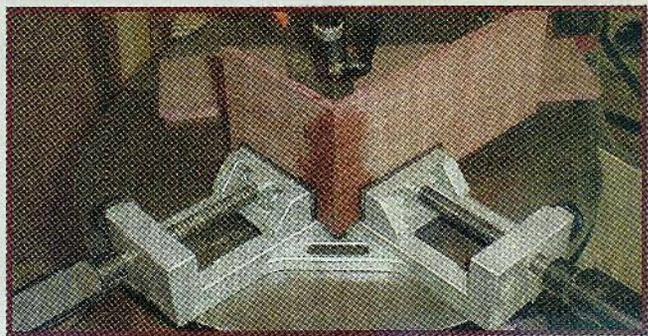

Fig. 1. Gluing up the box sides and ends.
Start by cutting the box front, back and sides (note 45° cuts). The pieces were glued together with the aid of a miter joint clamp. This one was purchased at Sears, but there are many out there to choose from (see Fig. 1). I'm a big fan of CA glue (cyanoacrylate). The wet marks in the picture are from the accelerator spray, used to make the glue set more quickly and completely through the joint. It dries back without affecting the wood. Using CA glue allows you to put the sides and ends together in just minutes. I buy mine from BG Artforms (Mr. Solid Surface), (888) 717-4202. I get the four-bottle case and keep it in the freezer. When I take the last bottle out of the freezer, I order another case so I don't run out. Be sure to have GOOD ventilation if you use CA glue!